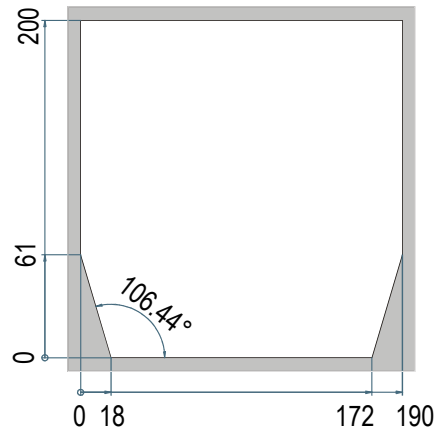

Fig. 4
1. Make a hole in the panel with dimensions described in Fig. 4 (simplified) or Fig. 5 (completed)